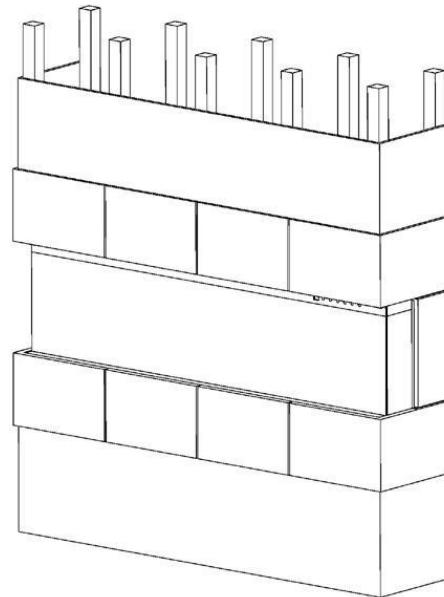

Fig.3-5
8.Decorate the plywood or drywall with glazed tile,wallpaper, etc. Fig.3-5